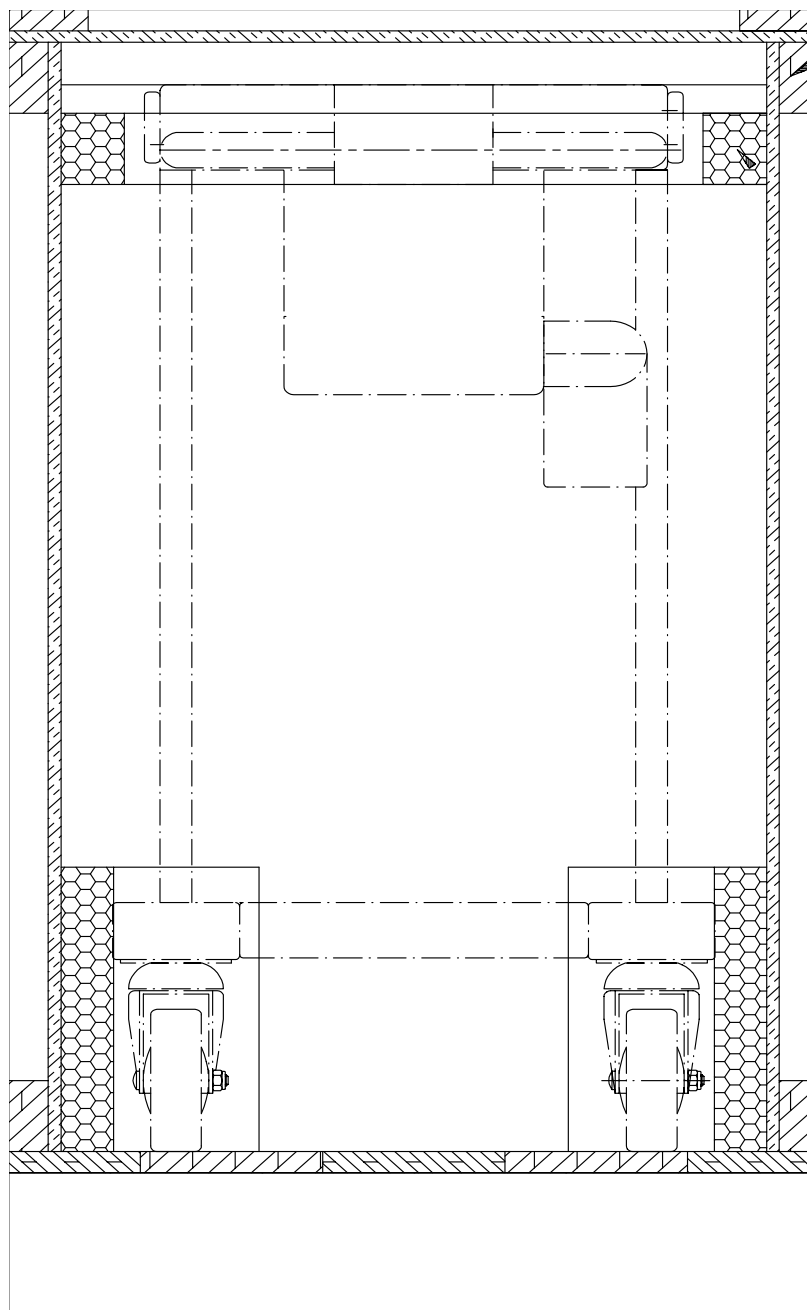

Figure 3-18 Global Trolley Unpacking
- 1.) Unpack the global trolley packed in a wooden box by opening the top cover, refer Figure 3-18 (trolley which is inside the box is seen in the diagram).
- 2.) Unpack the Modular Trolley packed in a box by opening the top cover, refer Figure 3-18